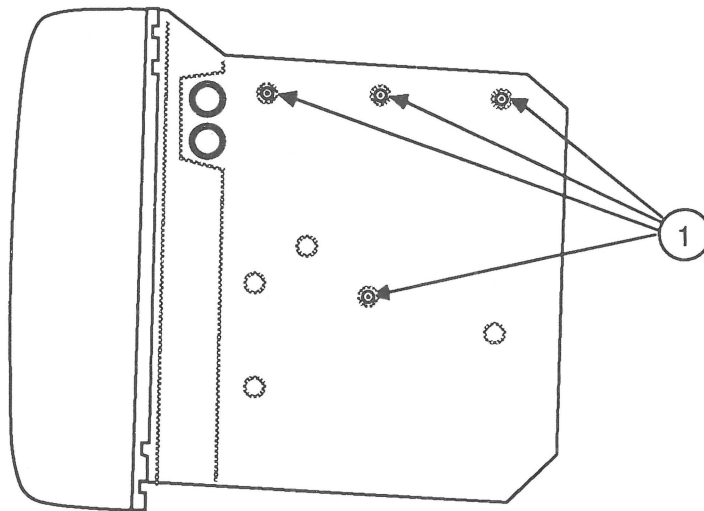

FIGURE 15
5. Remove the four screws (Figure 15, #1) that secure the main board to the chassis frame.